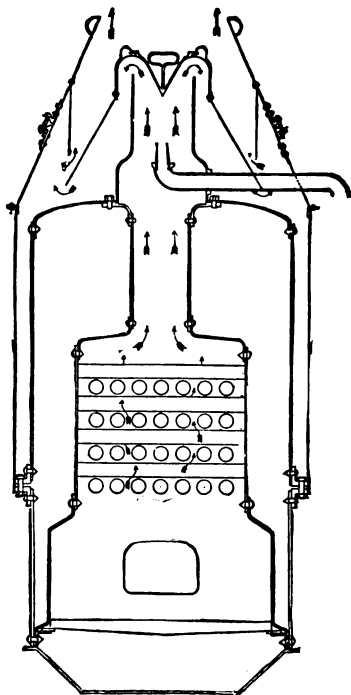

FIG. 14.—WESTINGHOUSE CROSS-TUBE BOILER.
A. There are two parts of the shell; the lower forming the fire box and containing water tubes, and the upper one a shell surrounding the tubes and composing the water and steam space. The two are joined by strongly bolted rings. in connection with the vertical smoke tube at the top, and can be taken apart to clean the boiler or repair the tubes. The circulation is across the combustion chamber, through the horizontal water tubes, and is determined in one direction by a little cast iron hood at one end of each tube. Sparks are deadened and held by deflecting hoods. See Fig. 14.